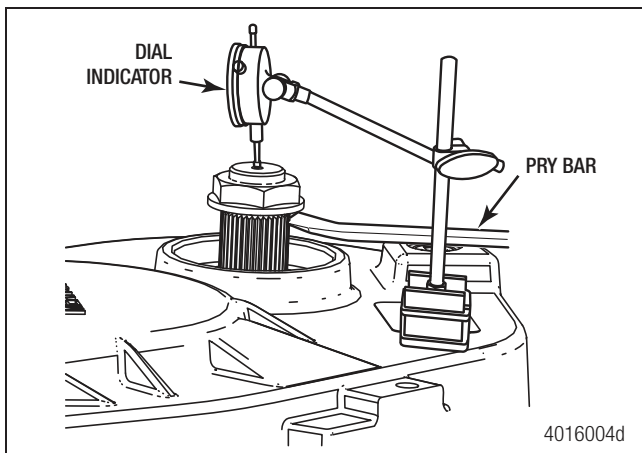

Figure 7.50
5. Use a pry bar to lift the yoke nut as shown and measure the end play. Perform this operation two or three times to obtain a consistent and averaged reading. Record the reading and adjust the end play as necessary until it is in the acceptable initial range as specified in Table A on page 41. Refer to "Tools" on page 60 for adjusting ring tool information. Once end play has been achieved, perform the required adjustment shown in Table A to set the appropriate bearing preload. Figure 7.50.